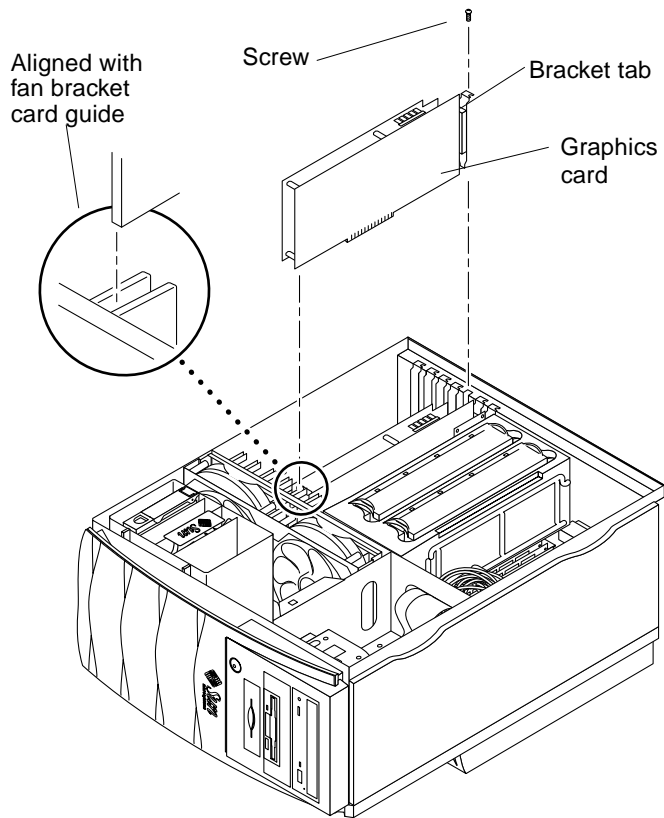

FIGURE 8-17 Removing and Replacing a Graphics Card
4. **Using a No. 2 Phillips screwdriver, remove the screw securing the graphics card bracket tab to the workstation chassis (FIGURE 8-17).**
1. **Position the graphics card in the chassis (FIGURE 8-17).**